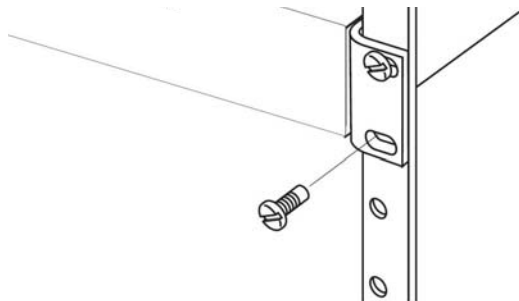

FIG. 3 Installing the Switch in a Rack
2. Mount the PDU in the rack, using 4 rack-mounting screws (not provided, see FIG. 3).